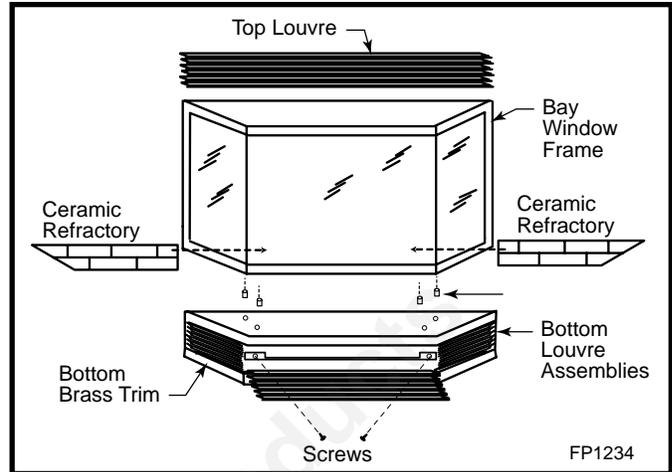

Fig. 54 Bay window installation.
5. Place the 2 pieces of ceramic refractory along the base of the bay window. (Fig. 54)